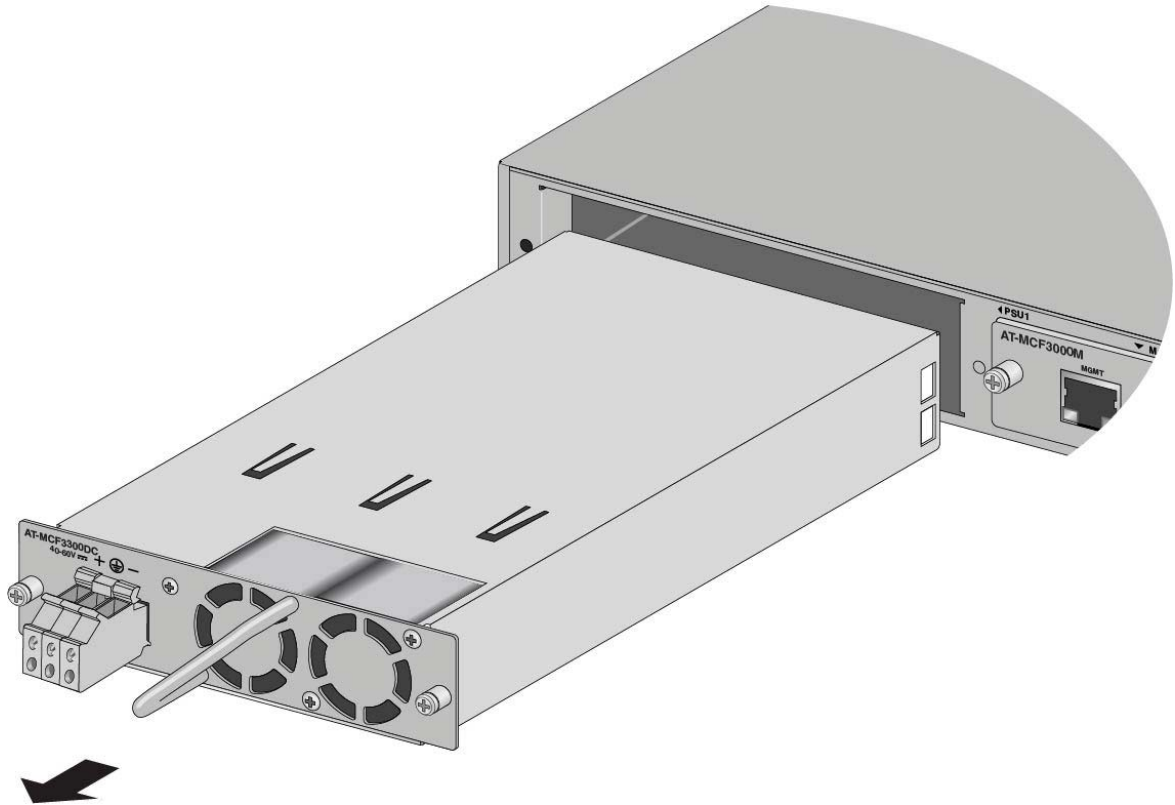

Figure 76. Sliding the MCF3300DC Power Supply from the Chassis
7. Slide the power supply out from the chassis. Refer to Figure 76 on page 115.